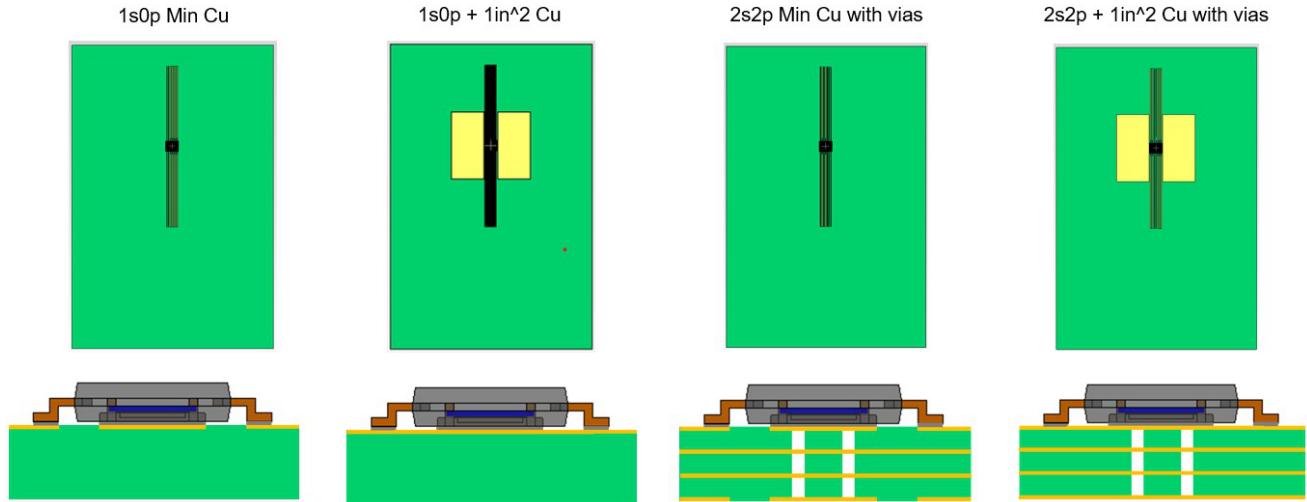

Figure 3. Board Construction for Thermal Performance
- Board construction based on JEDEC JESD 51-7 for a four layer 2s2p board with natural convection. Vias were added under the exposed pad as shown in Figure 3.